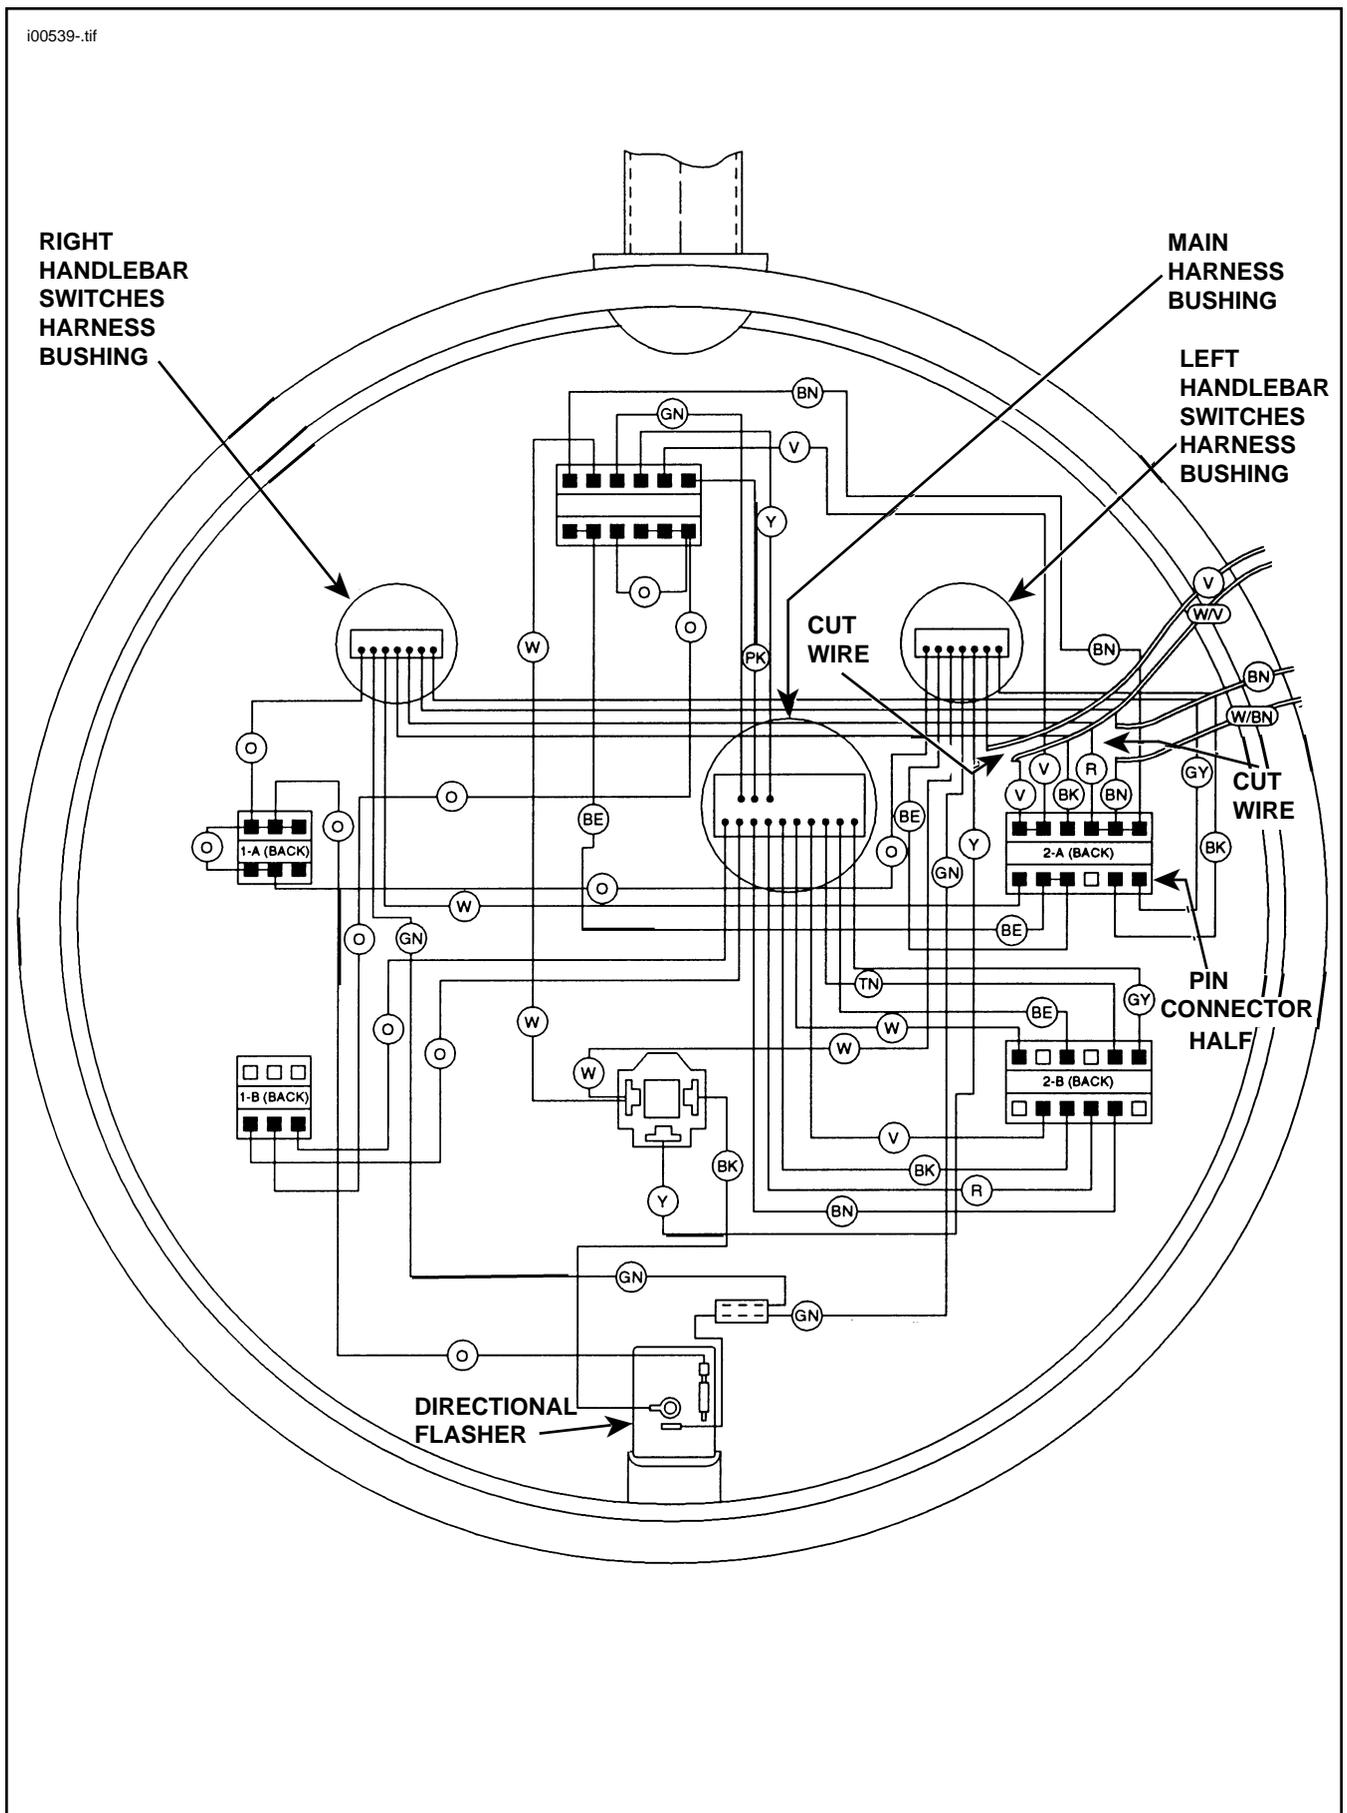

Figure 6. Module Connections Inside Headlamp Housing On XL's, FXE's (Except FXLR & FXRT)
6. Remove the headlamp from the headlamp housing. See Figure 6. Locate the grommet (bushing) that secures the main wire harness at back of headlamp housing. With a pliers, gently compress the bushing and push the bushing out to allow the white/violet, white/brown, violet and brown wires from the module to be "threaded" through the bushing and into the headlamp housing.